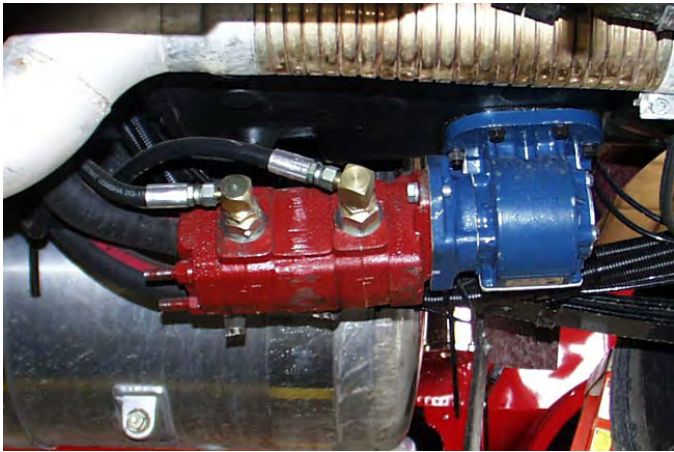

FIGURE 3.1
3.1 Your new CENTURY towing and recovery unit is fully hydraulic. It receives its power by means of a Power Take-Off/Pump combination mounted to the truck transmission. Since the pump is attached to the PTO, no drive line or universal joints are required. See Figure 3.1.
- 3A.1** Your new Underlift is totally hydraulic. It receives its power by means of a Power Take-Off/Pump combination attached to the vehicle transmission. Since the pump is attached directly to the PTO, no drive line or universal joints are required. Refer to Figure 3.1.
- (a) Elevate boom to the desired height and angle by use of the Boom "UP/DOWN" Control. Refer to Figure 3.1.
- (b) Extend boom to the desired length by use of the Boom "IN/OUT" Control. Refer to Figure 3.1.
- (b) The Rear Spades are raised and lowered by activating control handles located at the control station. Refer to Figure 3.1.